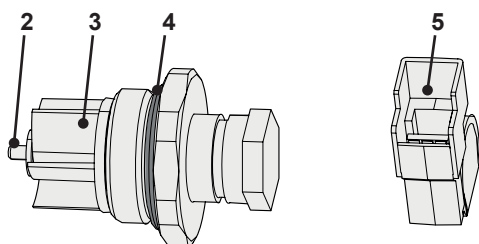
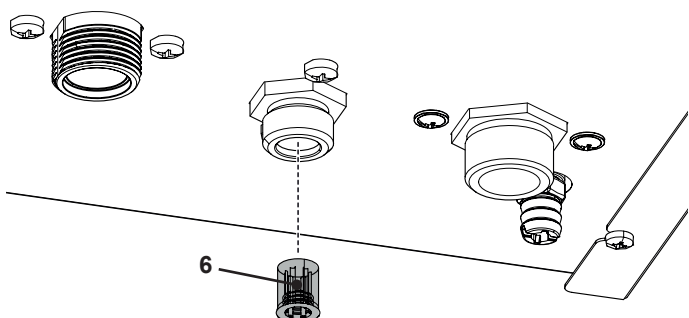

Figure 14.2
Figure 14.3
14.2 Description and location of parts - (Figure 14.2 - Figure 14.3)
- 4 Check that body with flow meter turbine "3" (Figure 14.2) rotates freely.